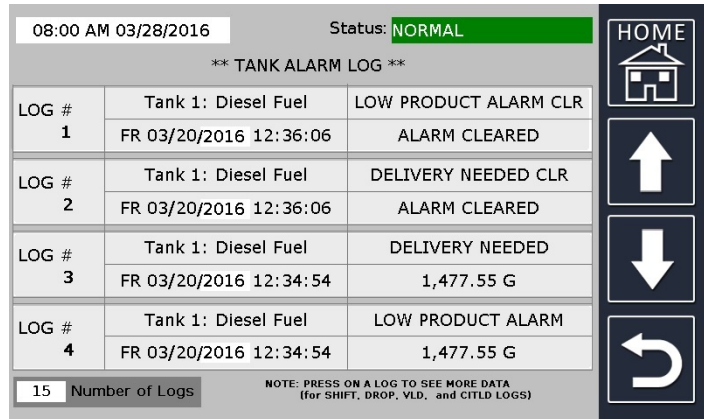

Figure 3.1.2
- c) After pressing  the following screen will appear and show alarm reports. (Figure 3.1.2)